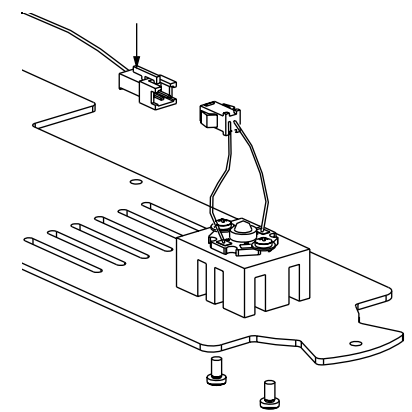

Figure 2.
- b. The LED light set should not need replacing often. If they need replacing, remove the bottom panel from the microscope, then remove the battery module to access the LED panel. Press on snaps on the connector socket and disconnect the LED. Remove the two screws holding the LED panel in place and replace with a new LED panel (see Figure 2).